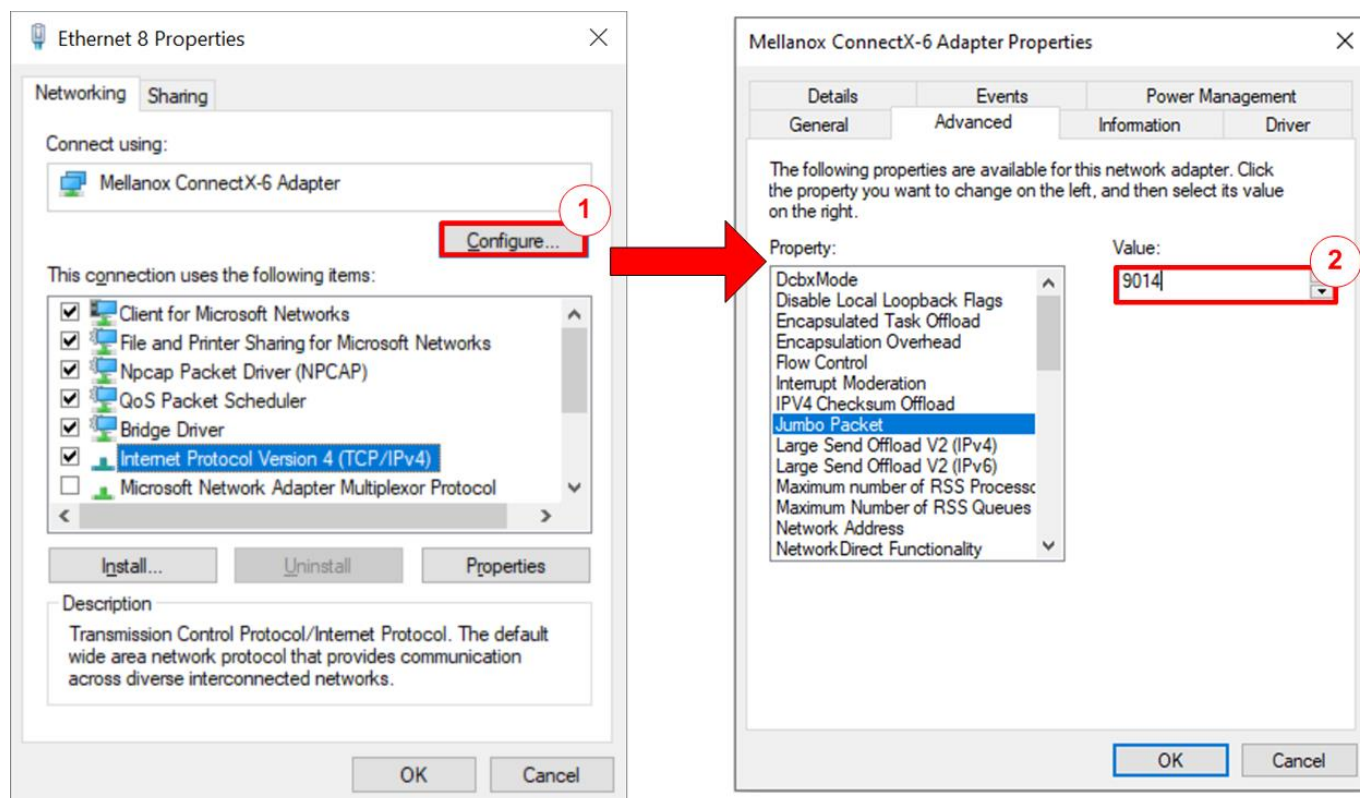

Figure 3-2 Set frame size = Jumbo frame
- 1) In the Local Area Connection Properties window, click “Configure”, as shown in the left window of Figure 3-2.
- 2) In the Advanced tab, select “Jumbo Packet”. Set the value to “9014 Bytes” to enable Jumbo Frame support, as shown in the right window of Figure 3-2.